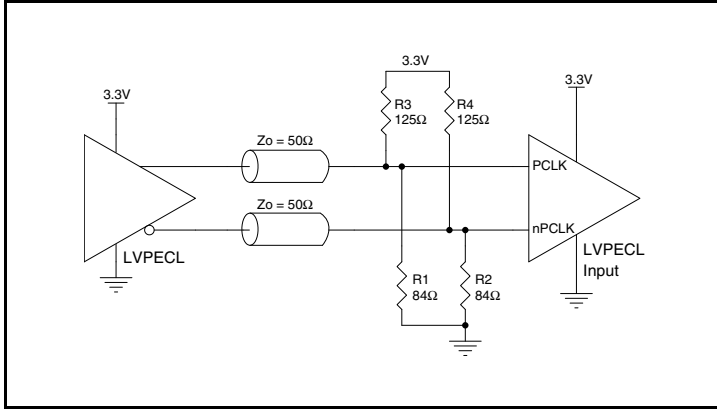

**Figure 1B. Alternative DC Coupling a Single LVC MOS Input to the IDT8SLVP2106I**
A practical method to implement  $V_{th}$  is shown in *Figure 1B* below. The reference voltage  $V_{th} = V_1 = V_{CC}/2$ , is generated by the bias resistors  $R_1$  and  $R_2$ . The bypass capacitor ( $C_1$ ) is used to help filter noise on the DC bias. This bias circuit should be located as close to the input pin as possible.
*Figure 1B* shows a way to attenuate the PCLK input level by a factor of two as well as matching the transmission line between the LVC MOS driver and the IDT8SLVP2106I at both the source and the
Though some of the recommended components of *Figure 1B* might not be used, the pads should be placed in the layout so that they can be utilized for debugging purposes. The datasheet specifications are characterized and guaranteed by using a differential signal.